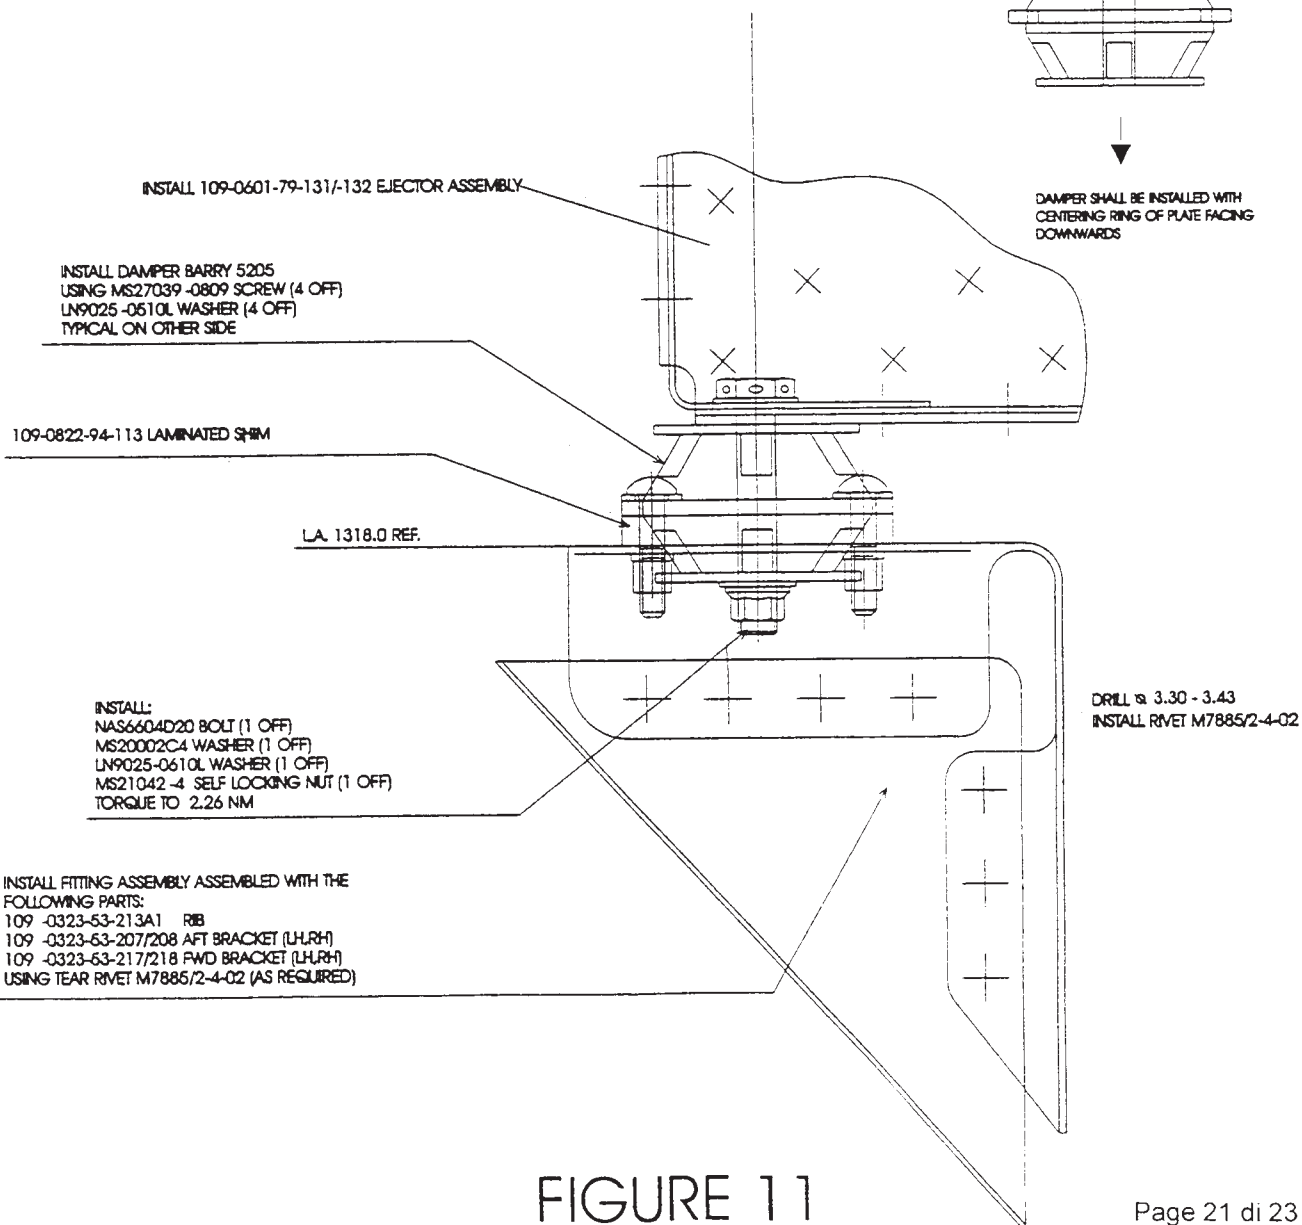

FIGURE 11
9. Install damper P/N BARRY 5205 on support P/N 109-0602-17 and secure as indicated in figure 11 by using four (4) screws P/N MS 27039-0814, eight (8) washers P/N LN9025-0510L and four (4) nuts P/N MS21042-L08.
10. Install damper P/N BARRY 5205 on support assy and secure as indicated in figure 11 by using four (4) screws P/N MS27039-0809; four (4) and washers P/N LN9025-0510L.
Ensure that damper is installed with centering ring facing downwards as indicated in figure 11.
- 11.2 Install saddle P/N 109-0601-79-131 (LH) and 109-0601-79-132 (RH) on relative dampers, as indicated in figure 11, by using for each damper: one (1) bolt P/N NAS 6604D20, one (1) washer P/N
14. If play results greater than 1 mm remove dampers and install laminated shim (peel as necessary) P/N 109-0822-94-113, as indicated in figure 11.